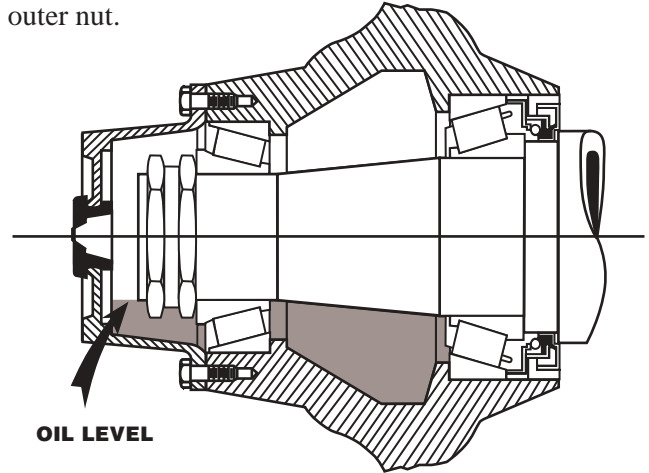

Figure 23. Checking Oil Level in Hub
10. Install the hub cap gasket and hub cap. Fill the hub to the "Full" line on the hub cap window (see Figure 13 & Figure 23).